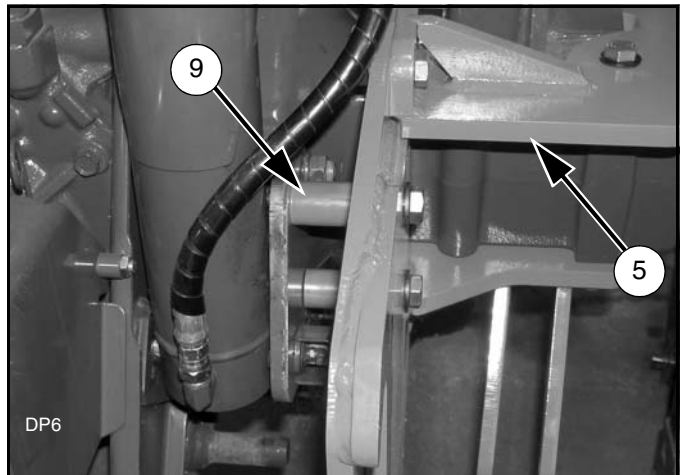

Figure 6. Tractor Bracket to Cylinder Bracket
1. Hook right tractor bracket (1) over rear axle. Secure to the bottom of the axle housing using four cap screws (15) and hardened flat washers (17).
2. Place spacers (9) between cylinder bracket (22) and tractor bracket (Figure 6). Secure to cylinder bracket using two cap screws (11) and hardened flat washers (17).
3. Attach to top bracket (5) using three cap screws (12), six hardened flat washers (17), and hex nuts (20).
4. Repeat steps to install left tractor bracket (2).